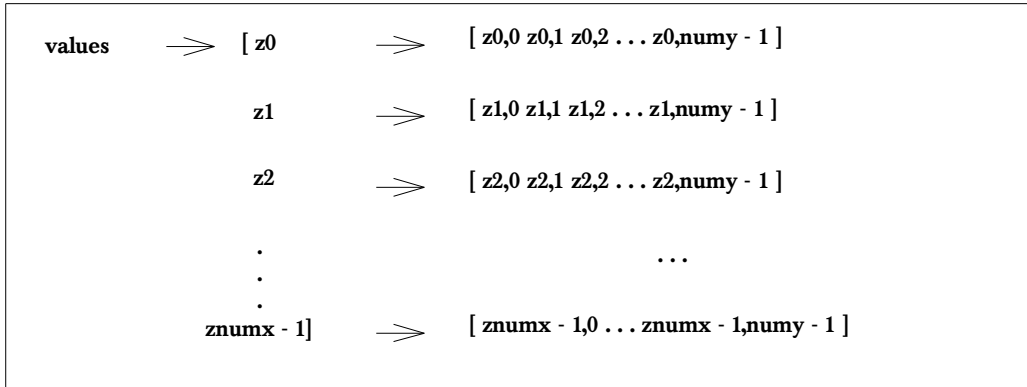

Figure 27 The Two Dimensional Array of Z Values
*values* is a two-dimensional array of the Z values for each grid point in X major order, as Figure 27 illustrates.